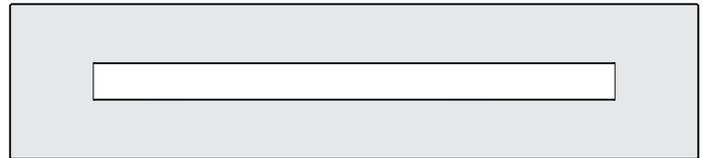

Figure 63
6. Apply the crushed glass to the shaded area only. **See Figure 63.** Use enough to cover the area of the fireplace, but do not allow the media to reach higher than the flange surrounding the burner. Never place decorative media inside the flange surrounding the burner itself.